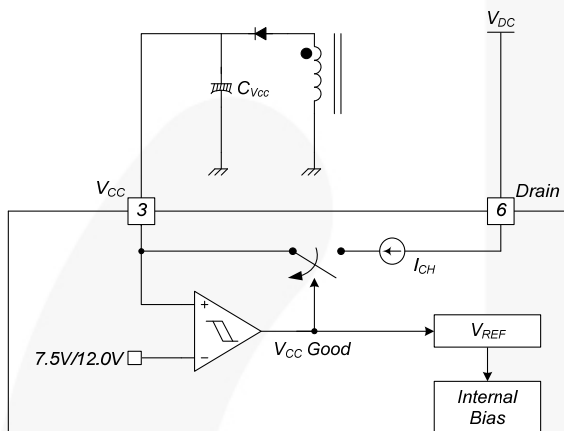

Figure 17. Startup Block
**1. Startup:** At startup, an internal high-voltage current source supplies the internal bias and charges the external capacitor ( $C_{VCC}$ ) connected to the  $V_{CC}$  pin, as illustrated in Figure 17. When  $V_{CC}$  reaches 12V, the FSL136MRT begins switching and the internal high-voltage current source is disabled. Normal switching operation continues and the power is supplied from the auxiliary transformer winding unless  $V_{CC}$  goes below the stop voltage of 7.5V.